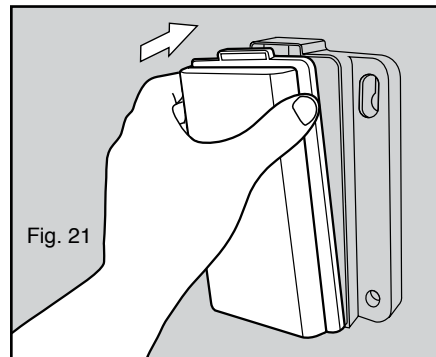

Fig. 21
22. Push the battery compartment cover onto the battery compartment base until both the top and bottom of the cover snap into place (see figure 21).